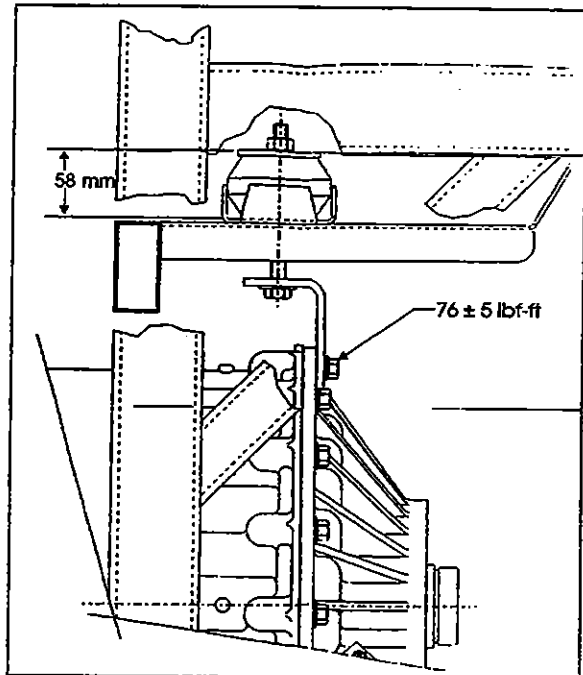

Figure 6: Nut Tolerance
10. If the vehicle is equipped with a retarder; install the bracket on the transmission and tighten the bolt to 71-81 lbf-ft (96-110 N·m). Install the transmission rubber mount between the rubber support and the frame with a bolt, nut and washer. Tighten the nut until the tolerance of 58 ± 2 is met (Fig. 6).